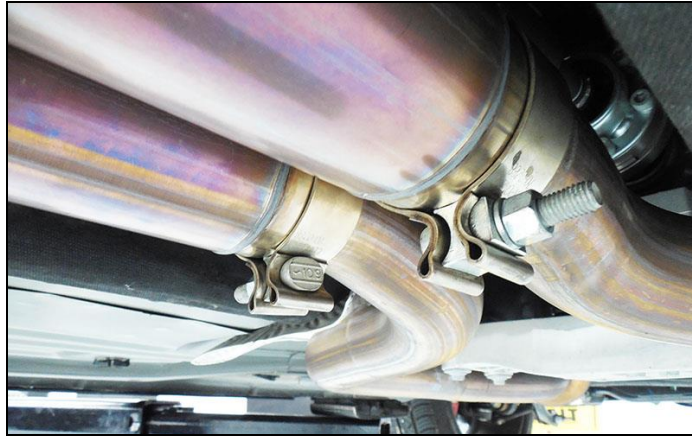

Figure 6
- Install the 2-3/4" band clamps on to the (x2) catalytic converter down pipes (bolt facing outward and on the bottom). See Figure 6.
- Install the **H-pipe** on to the catalytic converter down pipes. Spray the down pipes with WD-40® or equivalent to ease installation. Align the clamps at the bottom of the pipe with the bolt facing out. Tighten the clamps to allow for adjustment (Figure 6). Support the H-pipe to prevent damage to the catalytic converter down pipes.